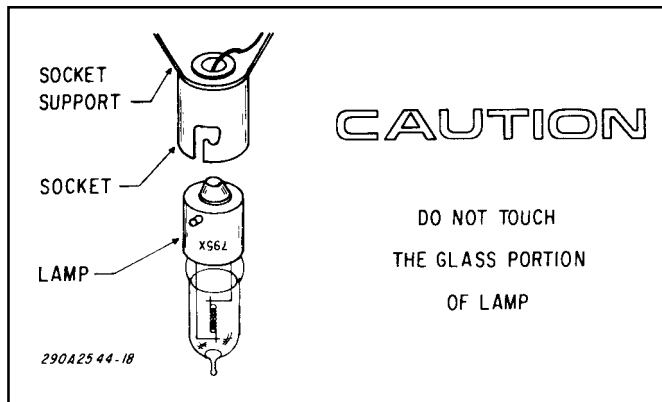

Figure 6-6. Pod Lamp Replacement.
- c. To replace the halogen lamp, twist to unlock and then pull the defective lamp out of the socket. Install a new #795X lamp in the socket (see figure 6-6). Refer to paragraph 6-6 for Federal Signal Part Number.